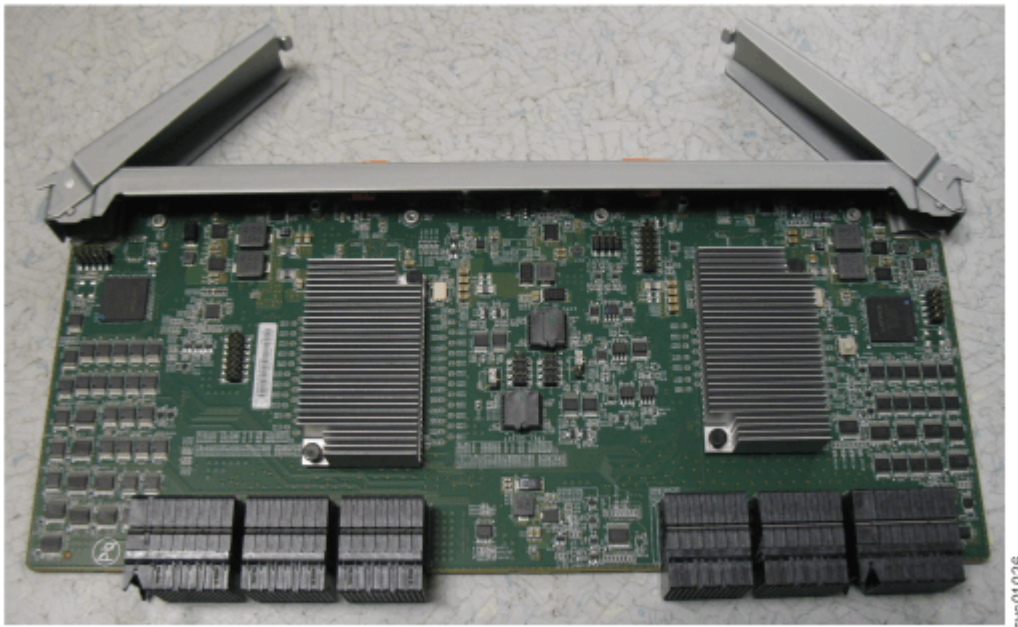

Figure 112. Secondary expander module removed from the enclosure
5. Place the secondary expander module in a safe location, as shown in Figure 112 on page 169.